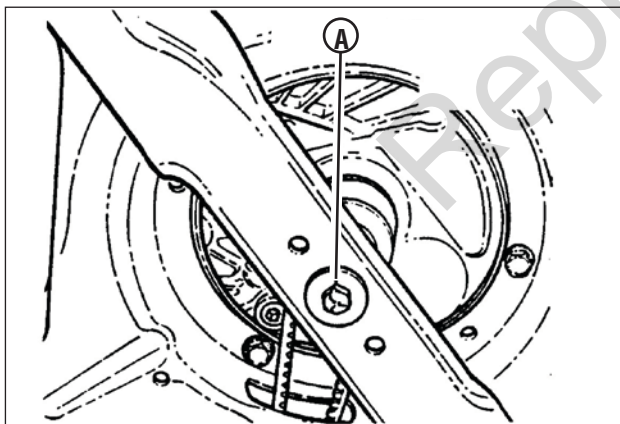

Figure 16: Tightening the blade cap screw
2. Tilt the mower up on its rear wheels for access to the blade cap screw (**A, Figure 16**). Do not tilt the mower with the spark plug or carburetor down.